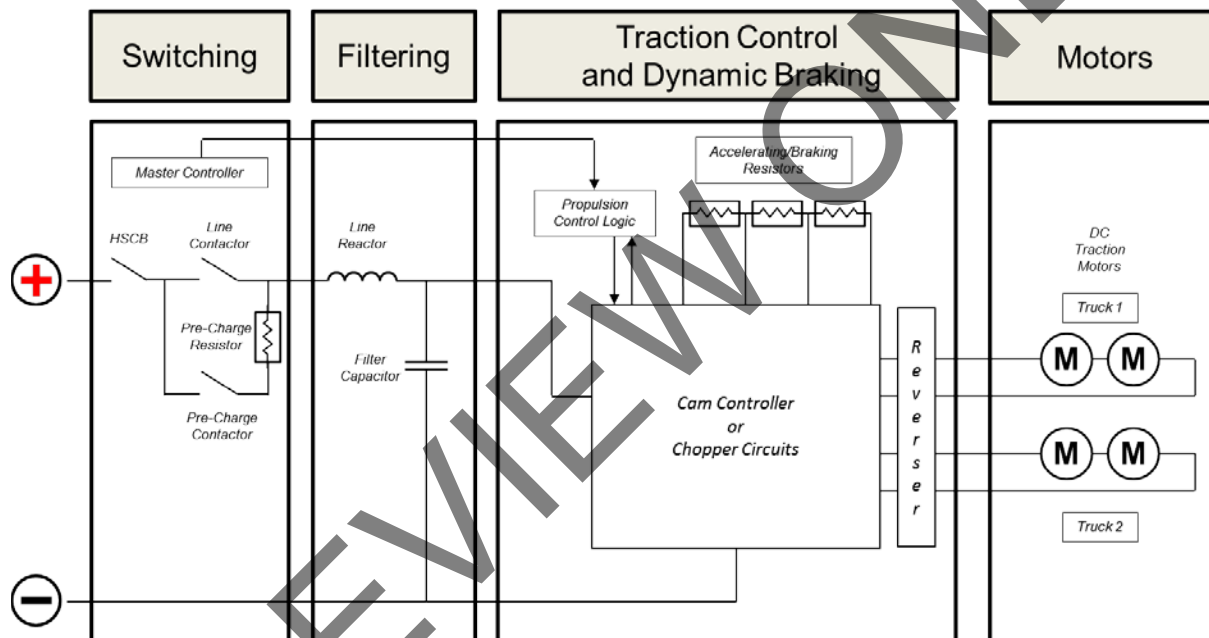

Figure 3.1 DC Propulsion Overview
This course has organized the DC propulsion system into four functional areas: switching, filtering, traction control and dynamic braking, and motors (Figure 3.1). Within each of the four areas, this module describes standard maintenance procedures of the main components as well as some of their sub-components. These procedures may not be specific to the rail cars the participant is expected to inspect and maintain at their rail transportation agency. This course should supplement further training either in the classroom or on the job on rail vehicles specific to participant's agency.
1. An overview of the propulsion component given a general layout as shown in Figure 3.1.